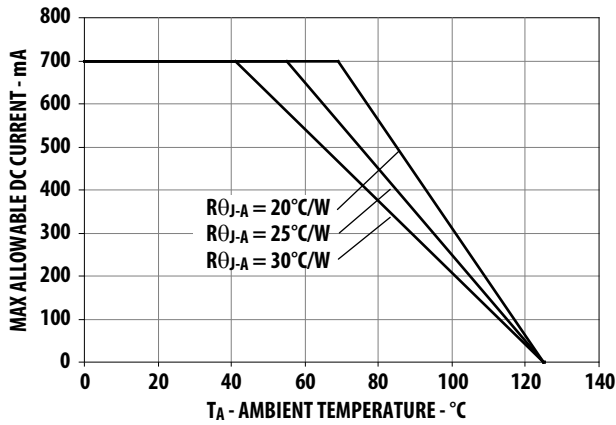

Figure 9. Maximum Forward Current vs. Ambient Temperature. Derated based on T_{JMAX} = 125°C, R_{θJ-A} = 20°C/W, 25°C/W and 30°C/W.
1. Derate linearly based on Figure 9.